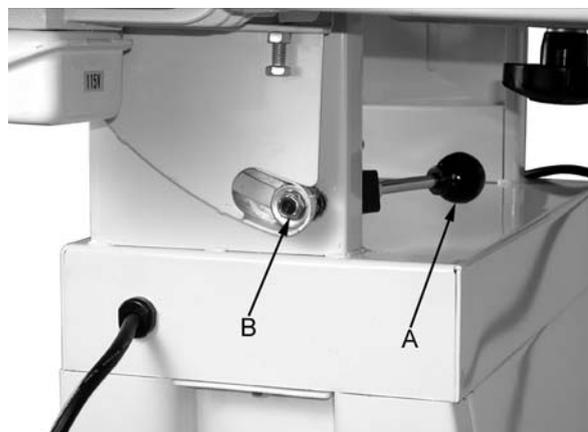

Figure 11
3. Tension eccentric block by tightening the nut (B, Fig. 11) with a 14mm wrench. Turn the nut in by 1/4 turn increments and test locking handle for proper tension.